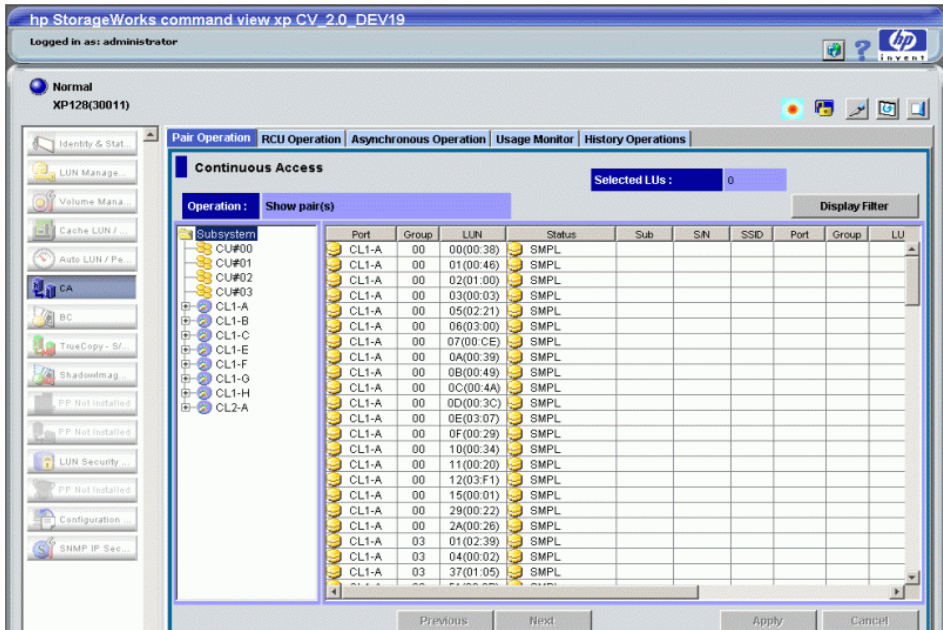

Figure 271: CA main pane
5. Click the **CA** tab to start CA. The CA main pane is displayed (see Figure 271).